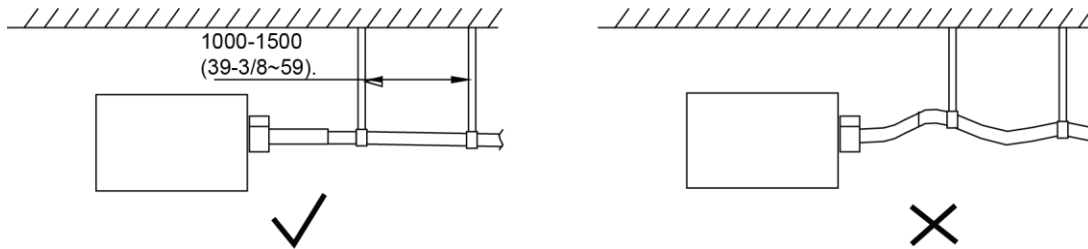

Fig18
k) Drain pipes should have a downward slope of at least 1%~2%. To prevent pipes from sagging, install hanger brackets at intervals of 1000 ~ 1500 mm (39-3/8 ~ 59 in.) (Fig18).